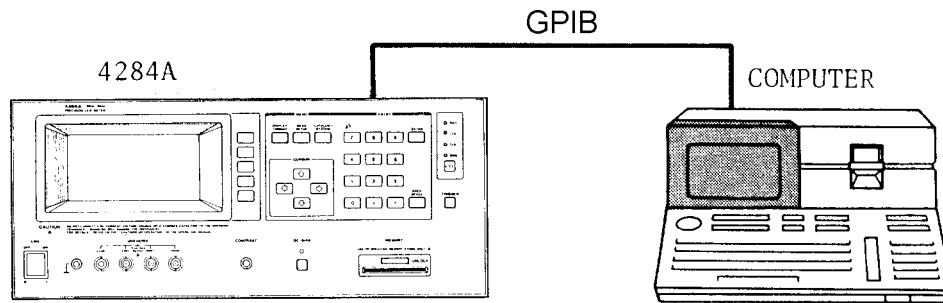

Figure 10-8. GPIB Interface Test Setup
2. Set up the equipment as shown in Figure 10-8. Use the computer's interface Select Code (7).